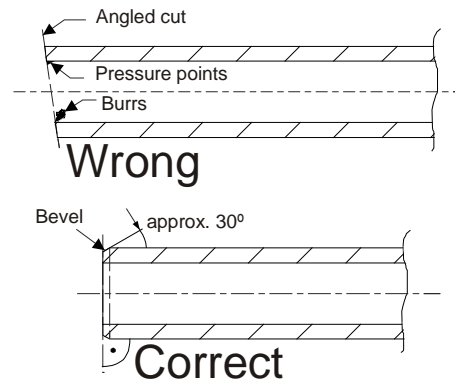

Fig. 21 Cutting the tubes
- The tubes must be cut with a pipe cutter to required lengths. In doing so, ensure that the cut is at a right-angle to the tube axis. Any projecting burrs must be removed (Fig. 21).
- The ends of the individual tube pieces are to be slightly angled with a suitable tool, e.g. slightly bevel with a pipe peeler (Fig. 21).